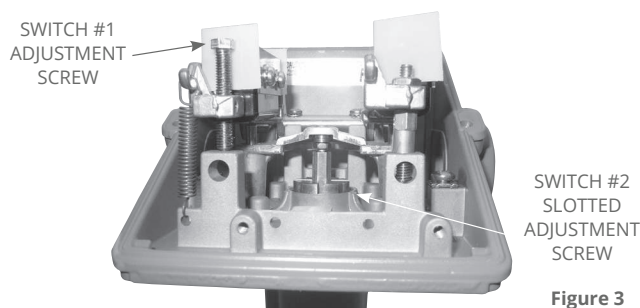

Figure 3
- 1 Switch #2 should be set first, and to the highest set point. Using a flathead screwdriver, adjust switch #2 by turning the slotted adjustment screw (see Figure 3) clockwise to raise set point or counterclockwise to lower set point.
- 2 Adjust switch #1 set point to an equal or lower set point than switch #2 by turning switch #1 adjustment screw (see Figure 3) clockwise to raise the set point or counterclockwise to lower the set point. Maximum switch separation between switch #1 and #2 is defined in Table 1. Both switches are now set.